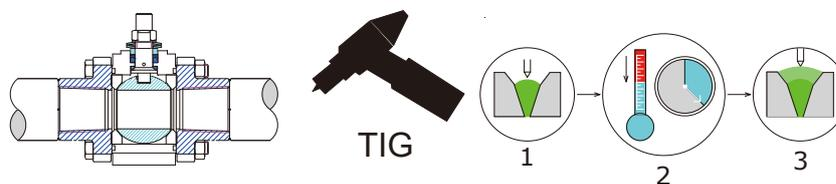

Fig.2 Welding for Fig.130/131
- The valve should not be separated during TIG welding. Keep the valve in open position and complete the welding process (See Fig.2).